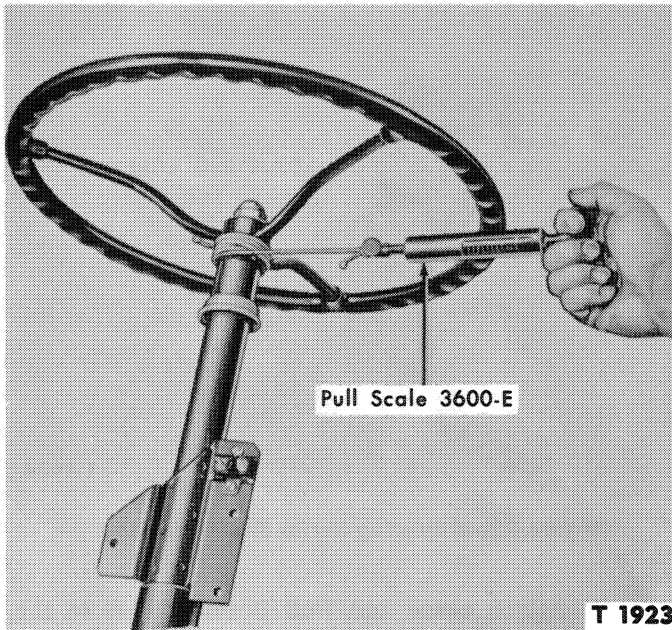

Figure 24—Pull Scale Attached to Steering Wheel Hub
- b. Attach twine and Pull Scale 3600-E to the steering wheel, as shown in Figure 24.